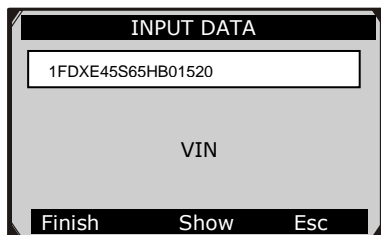

Figure 6.13
- 8) Enter correct Vehicle Identification Number (VIN) in the **INPUT DATA** menu. (Figure 6.13)